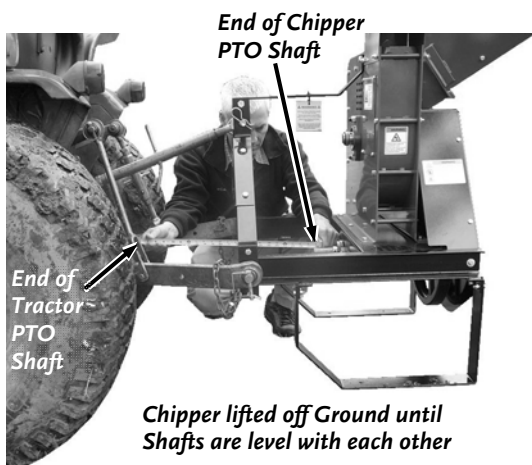

Figure 15
2. Raise the Chipper up until the Tractor PTO Shaft and Chipper PTO Shaft are parallel with each other. Measure from the end of the Tractor PTO Shaft to the end of the Chipper PTO Shaft and record this dimension in the "SHAFTS LEVEL" row of the table above (**Figure 15**).